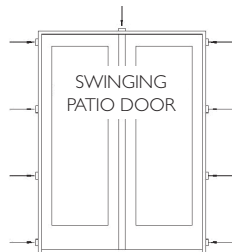

FIG. 15
- L) Start with a shim at each corner no more than 1" from the jamb corner. Add additional shims spaced evenly from the center of the unit make sure shims are spaced no more than 16" apart. Note to use flat shims or pairs of triangle shims to ensure the jamb does not twist. (Fig. 15)
- M) Additional shims are required at each lock point, head shootbolt and hinge location for all operating doors. (Fig. 15)